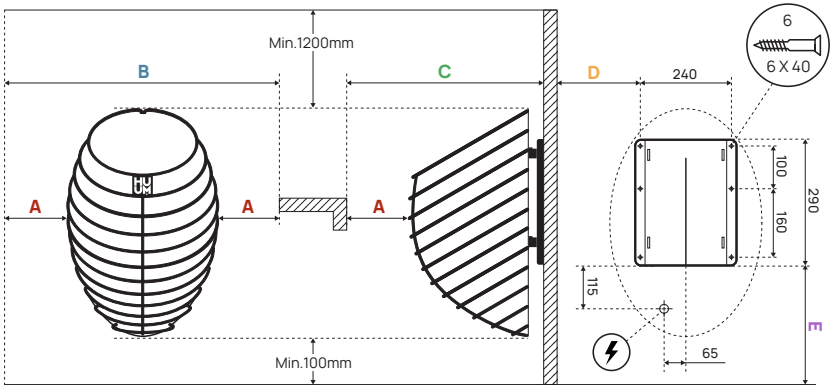

Figure 1. Positioning the heater
- The input of the power cable is located 6,5 cm to the left of the centre of the heater and 8 cm from the lower edge when looking from the front (Figure 1.).